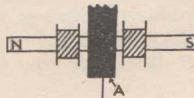
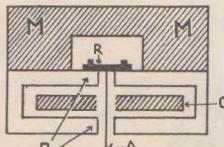

FIG. 1.
FIG. 2.
In the single acting type (fig. 1) the armature (A) is mounted upon one side only of the pole pieces NS. This type is not very efficient. The majority of good pick-ups use the 4-pole principle (fig. 2). In this system the armature (A) consists of a needle holder mounted on a reed which passes between the pole pieces P of the magnet system. Coil C is wound on a former through which the armature passes. The ends of the winding are taken to the terminals of the pick-up, rubber damping cushions R being placed at each side of the reed, to prevent it from sticking to the pole pieces. The bar magnet M magnetises the pole pieces. A fluctuating voltage is then generated in the pick-up as shown in fig. 3.